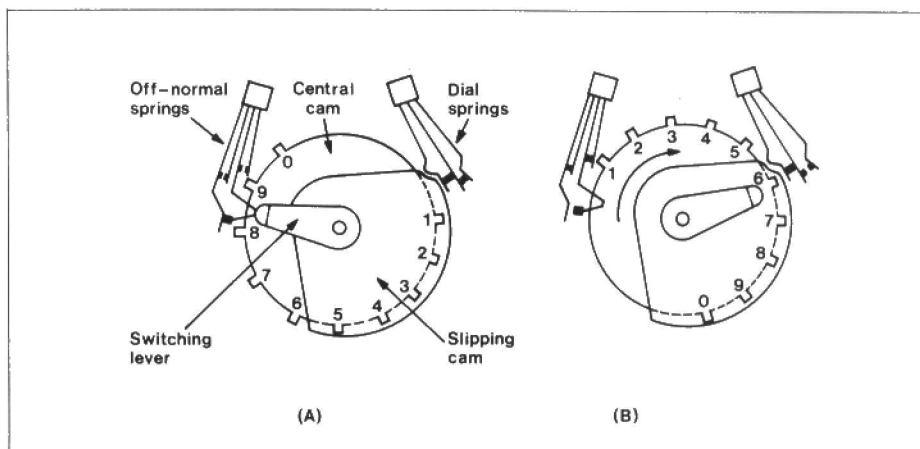
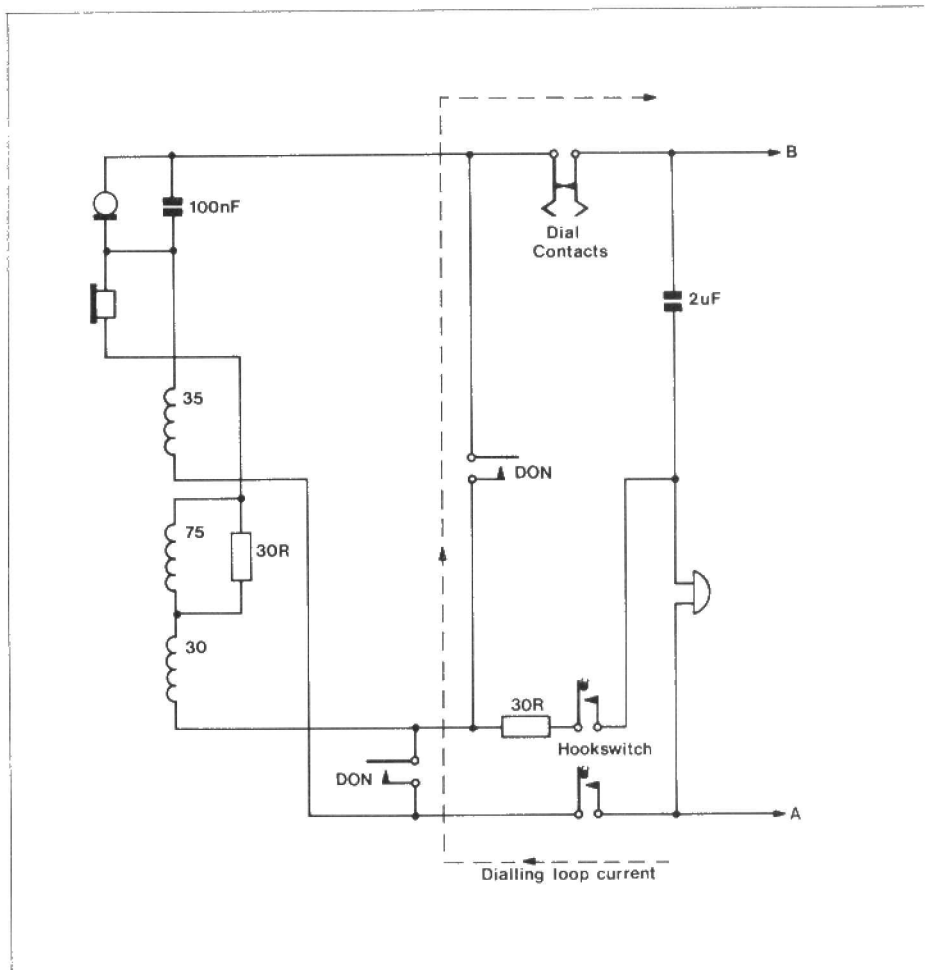

Figure 2. The 330 telephones' dial operation, (a). At rest. (b). Ready to dial digit 5.
Figure 3. The dialing path for the 332 telephone.
Figure 2 is a simplified sketch of a Telephone 330's dial seen from below. The central cam is shown in (a) at rest and in (b) poised to dial the number 5, showing the changed positions of the central cam, dial springs and off-normal springs. The teeth on the central cam are numbered to show their relationship to the numbers on the dial, and the arrow shows the direction in which the central cam must turn to return to rest. The central cam also closes the dial off-normal (DON) springs when the dial is not in its rest position. These contacts short-circuit the telephone's transmission path during dialling to ensure undistorted dial pulses and to prevent unwanted clicks in the receiver. The dialling path for the Telephone 332 is illustrated in Figure 3. When the dial plate is released, the central cam returns to its normal rest position at a more or less precisely controlled speed. As the cam unwinds, the slipping cam drops the dial springs into contact with the central cam and the exposed (5) teeth operate the dial springs 5 times, thus transmitting 5 pulses
The circuit of the Type 332 telephone shown in Figure 3 includes a 3-winding coil that looks as if it might be part of an ASTIC circuit. It is, too, and the next article will discuss how it works.